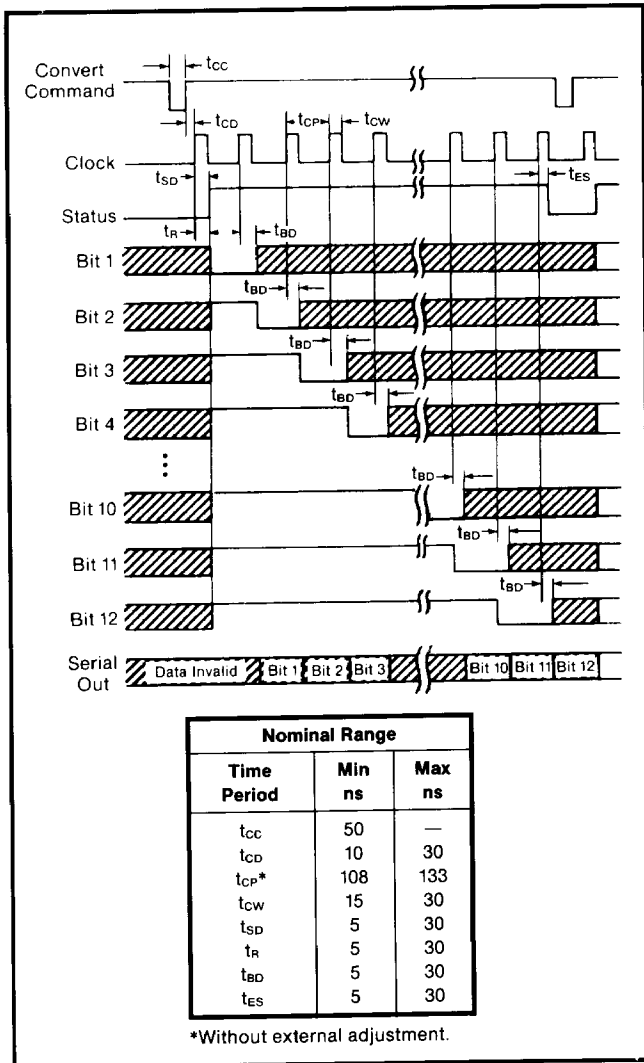

FIGURE 2. ADC806 Timing Diagram.
The timing diagram (Figure 2) shows the relationship between the convert command, clock and outputs. The digital output word is positive true logic for bipolar operation and complementary logic for unipolar operation.
The following are some important notes on the ADC806 timing. The times given are typical unless otherwise noted. Nominal maximum and minimum times are also given in Figure 2.
5. **Parallel Output Data:** The Successive Approximation Register (SAR) is reset 13ns after the leading edge of the first clock period in the conversion cycle. The MSB is set to logic "0" and all other bits are set to logic "1". The bits are determined in succession starting with the MSB, Bit 1, as shown in Figure 2. Each bit will be valid 11ns after its corresponding clock pulse.